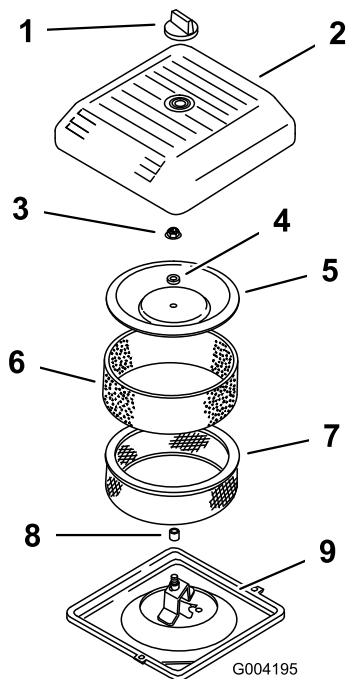

Figure 41
3. Unscrew the knob and remove the air-cleaner cover (Figure 41).
4. Carefully slide the foam pre-filter off the paper element (Figure 41).
5. Unscrew the cover nut and remove the cover, spacer, and paper filter (Figure 41).
2. Place the air cleaner assembly onto the air cleaner base (Figure 41).
3. Install the cover, spacer and secure it with the cover nut (Figure 41). Torque the nut to 11 N·m (95 in-lb).
4. Install the air cleaner cover and secure with the knob (Figure 41).